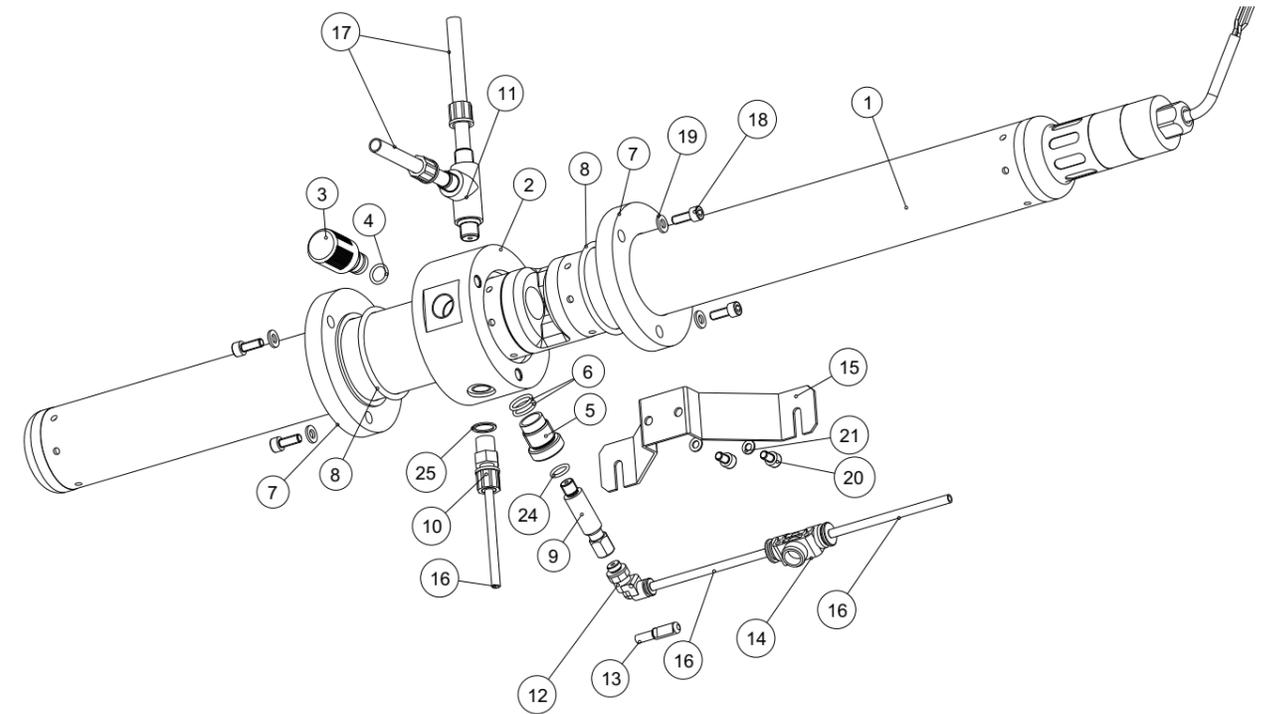

Fig. 1-1 Exploded drawing
The measuring gap of the spectral sensor can be cleaned after unscrewing the cleaning screw connection (pos. 3 in Fig. 1-1). When cleaning the measuring gap, follow the instructions in the operating manual of the spectral sensor. Only use the cleaning agents and accessories mentioned there.
16	Sample inlet: Connect the sample inlet hose (6 mm outer diameter) to the straight screw coupling for the sample inlet positioned on the underside of the measuring chamber (pos. 10 in Fig. 1-1).